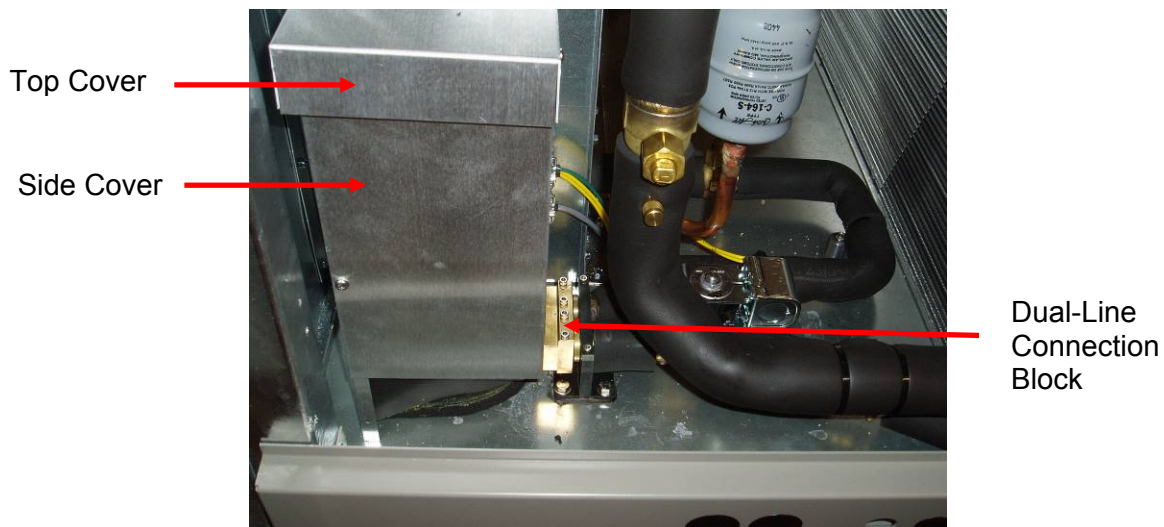

Figure 19 – Refrigerant Pump/Inverter Top & Side Covers
4. Remove REFRIGERANT PUMP / INVERTER top and side COVERS (see Figure 19).